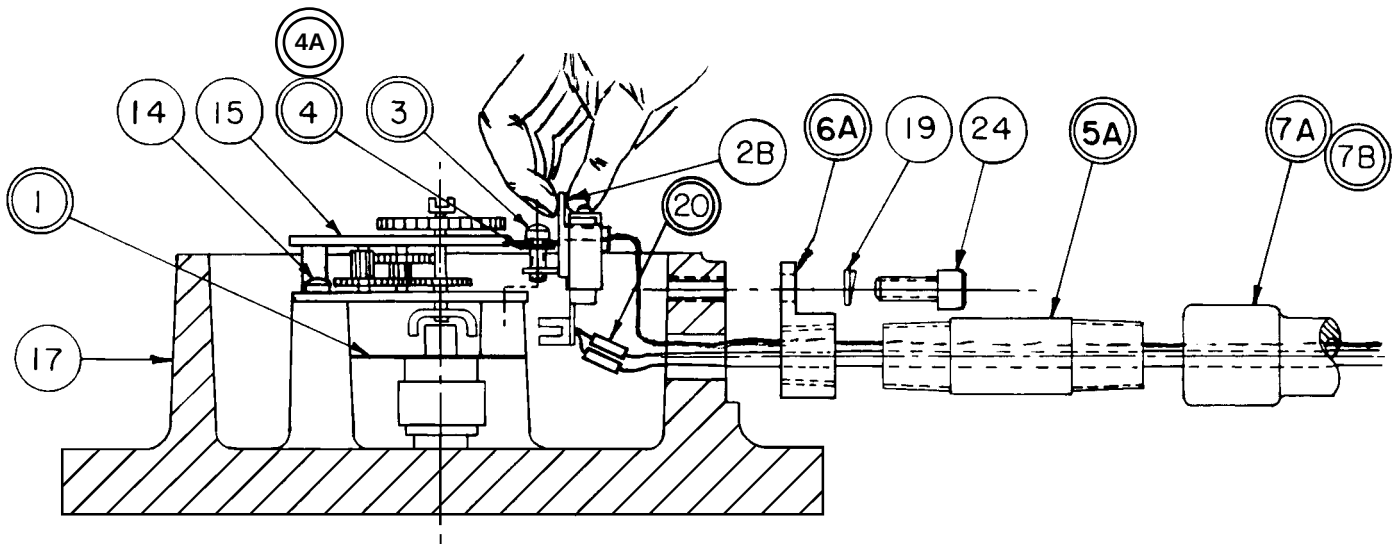

FIGURE 2
- 1 Place the new follower magnet/chopper assembly (1) onto the magnet well post.
- 2 Reassemble intermediate gear train (15) in top plate (17). Use only two of the three retaining screws (14) in the two holes farthest from the probe mounting hole.
- 3 Insert mounting screw (3), flat washer (4), and lock-washer (4A) into sensor bracket (2).
- 4 Hold the sensor bracket by the thumb tab (2B) and place it down into the top plate (Figure 2 or 6).